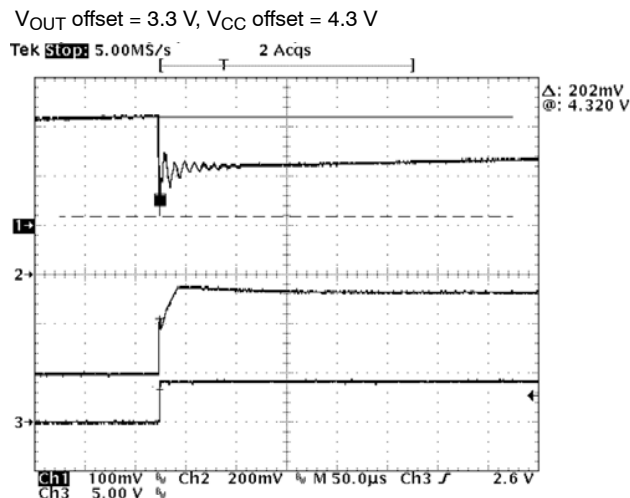

Figure 8. VCC Power-up (VAUX = 3.0 V)
**VCC Power-up (VAUX = 3.0 V).** Figure 8 shows the output response as VCC approaches the select threshold during power-up. The auxiliary voltage, VAUX is set to a low level of 3.0 V. When VCC reaches the select threshold, a modest level of in-rush current is required to further charge the output capacitor resulting in VCC disturbance of 200 mV. The built-in hysteresis of 250 mV ensures the regulator remains enabled throughout the transient.